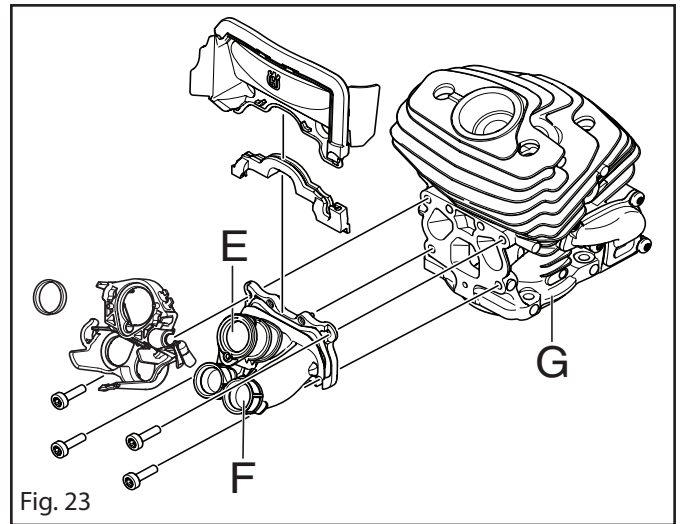

Fig. 23
1. The upper intake (E) lets fuel and air mixture from the carburettor into the cylinder (G). See figure 23.
2. The lower intake (F) lets air into the cylinder (G). See figure 23.